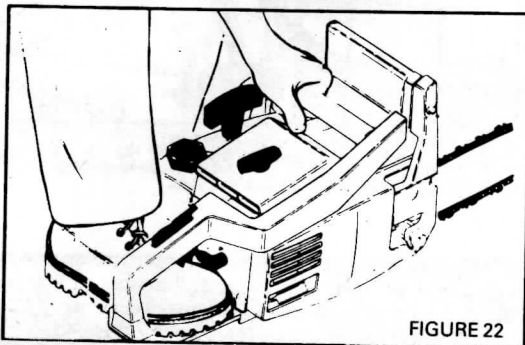

FIGURE 22
6. Hold the saw down firmly by the front handle (**NOT CHAIN BRAKE** lever/handguard) with left hand. Place your right foot in the "boot loop" formed by the rear handle and bottom shroud. (Figure 22).